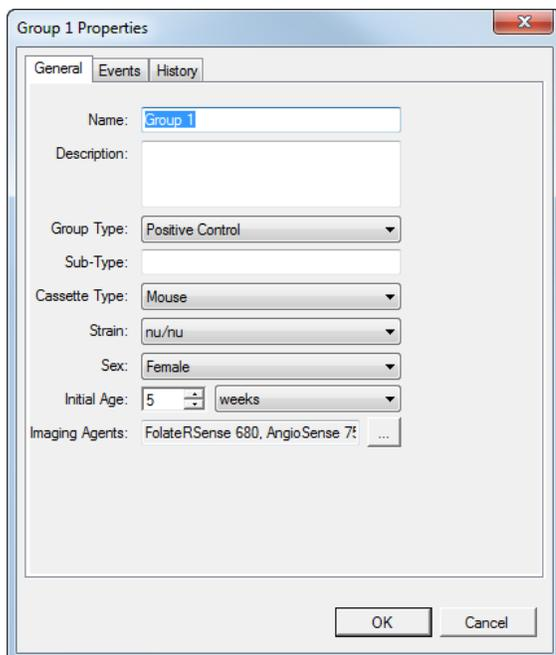
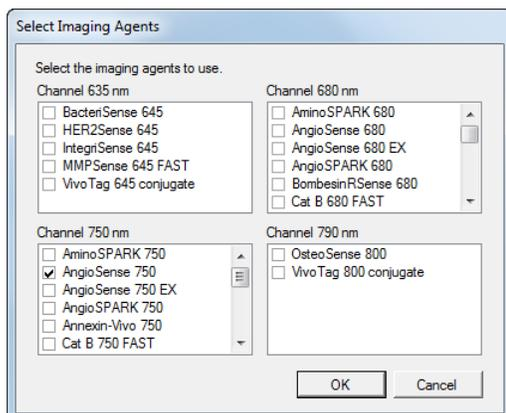

Figure 5-11. Study Group Properties Window
Figure 5-12. Select Imaging Agents Window
- To edit the agent assignment for the group, right click on the group row and select **Properties**. The **Group Properties** window (Figure 5-11) opens. Click the Browse (...) button next to the Imaging Agents text box. The Select Imaging Agents window (Figure 5-12) opens. Select or clear the desired Agents for each channel and click the OK button.